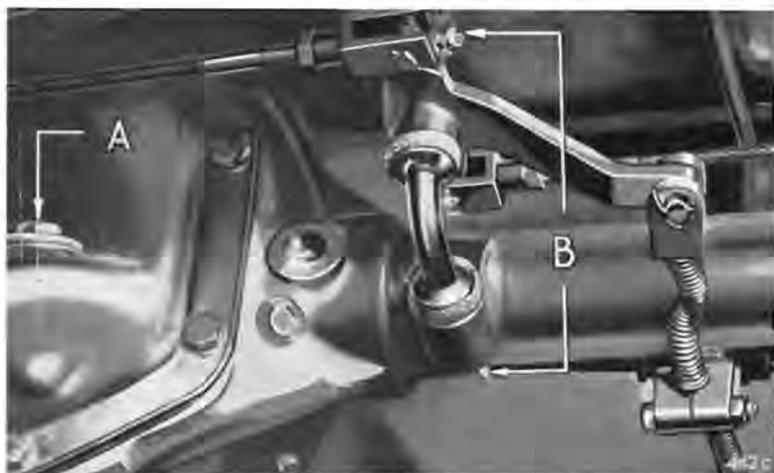

Fig. 8. Rear axle oil filler and handbrake compensator
Check the oil level during this period, especially after the first 1,000 miles, and replenish if necessary to level with bottom of the threads in the filler orifice. Should a top-up be necessary, investigate the cause of oil loss. The filler plug fitted to the rear axle cover is accessible from underneath the car, (see arrow A, Fig. 8). Clean away mud before unscrewing the filler plug to avoid grit falling into the axle.
Two grease nipples are provided on the compensator which is situated on the rear axle casing (see arrow (B), Fig. 8).